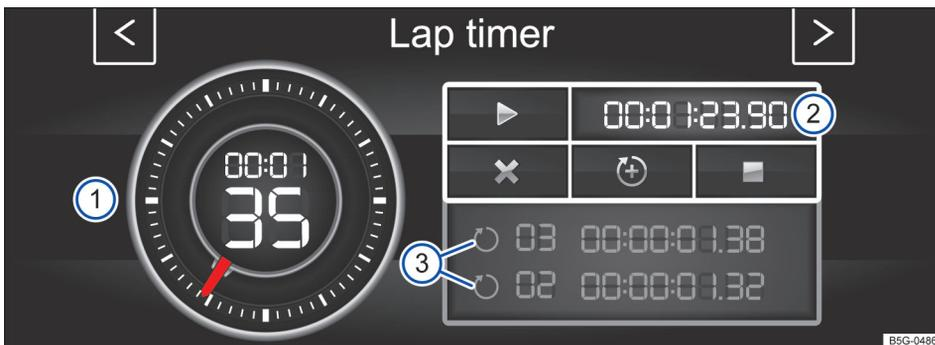

Fig. 19 In the Infotainment system: Performance Monitor lap timer/stopwatch.
Key to fig. 19 and fig. 20:
The stopwatch has two different measuring functions. The stopwatch in the outer ring of the display (with timer needle) → fig. 19 ① can measure up to 60 seconds. The digital display in the center of the stopwatch shows the elapsed hours, minutes, and seconds. The seconds appear as large numbers.
The digital display on the right side → fig. 19 ② shows the current lap split time in 1/100 second intervals. If the lap timer is not being used to track split times, both digital displays show the same time.
Function	Action → fig. 19 and → fig. 20
Show the intermediate time in the stopwatch display:	Tap button B  . The intermediate time (the moment the button is pressed) is shown for a few seconds in the center of the stopwatch → fig. 19  . After the brief pause, the current time resumes in the center of the stopwatch.